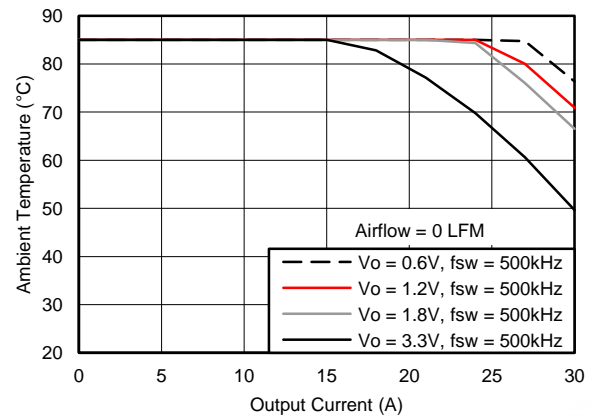
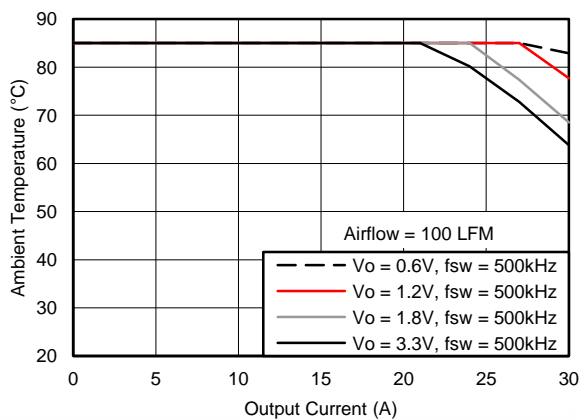
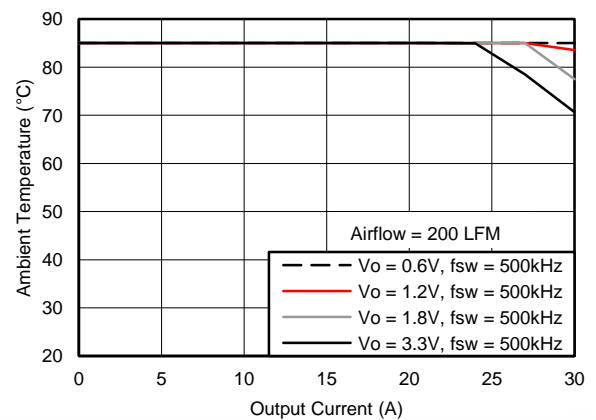

Figure 4. Safe Operating Area (0 LFM)
Figure 5. Safe Operating Area (100 LFM)
Figure 6. Safe Operating Area (200 LFM)
- (2) The temperature derating curves represent the conditions at which internal components are at or below the manufacturer's maximum operating temperatures. Derating limits apply to devices soldered directly to a 100 mm × 100 mm six-layer PCB with 1 oz. copper. Applies to Figure 4, Figure 5, and Figure 6.